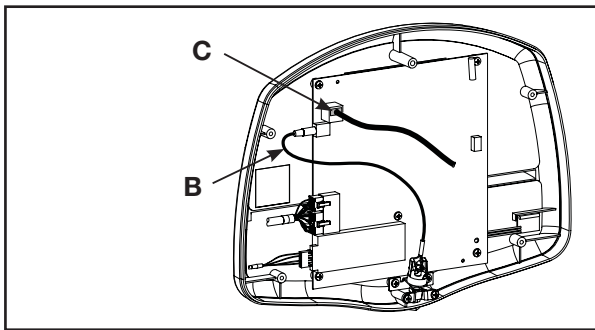

Figure 14
- A. Attach the RJ-45 (C) and audio cables (B) to the main display pc board. See Figure 14.